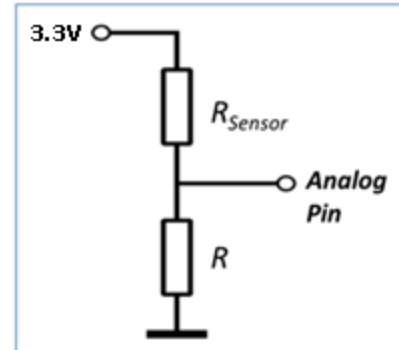

Figure 5: One FSR sensor circuit
- Step 3. Create a voltage divider using the FSR and a 3.3 KOhm resistor (R) according to Fig 5.